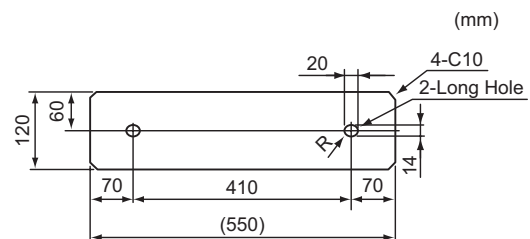

Fig. 5.10 Frame and Base Installation
- (8) The whole of the base of the outdoor unit should be installed on a foundation. When using a vibration-proof mat, it should also be installed in the same way. When installing the outdoor unit on a field-supplied flame, use metal plates to adjust the frame width for stable installation as shown in Fig. 5.10.